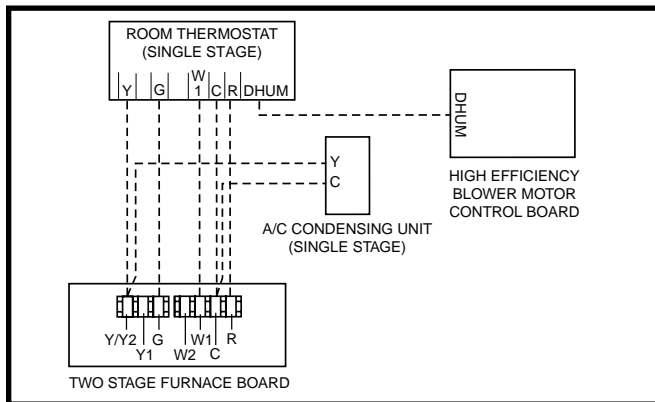

Figure 22. Wiring Configuration 1
- Connect the thermostat's **W** output to the furnace control boards **W1** terminal. This allows the furnace to always run in low output mode. See (Figure 22)
The Autostaging feature makes it possible to use a single stage thermostat and still receive some of the benefits of 2-stage furnace operation. If Autostage is enabled, the furnace will drop to **LOW** fire after initially starting in **HIGH** fire. After a period of 10 minutes, the furnace will then stage up to **HIGH** fire, until the heating load is met. See Figure 22 and the Low Voltage Connection section (page 25).
- √ Verify that all needed thermostat wires are securely connected to the correct leads on the terminal strip of the circuit board. See Figures 22 - 24 (page 26).